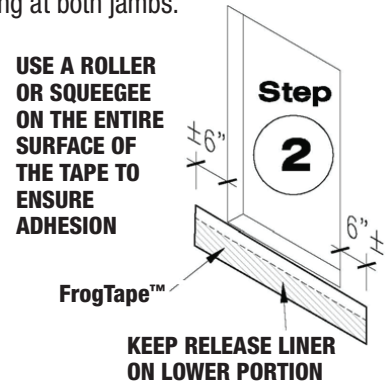

Figure 3 Apply sill flashing.
Step 2. Precut a length of FrogTape Pro Grade Flashing Tape for the windowsill to extend a minimum of 6 in beyond the prepared rough opening at both jambs. It is recommended that the 6 in, 9 in and 12 in widths of FrogTape Pro Grade Flashing Tape be used for flashing windowsills. These widths are made with a scored release liner so that a partial piece of release liner can be removed. Remove the top portion of the release liner. Keep lower portion of release liner on the FrogTape Pro Grade Flashing Tape – to be removed later. Apply the adhesive exposed portion of the FrogTape Pro Grade Flashing Tape across the prepared rough opening of the sill leaving the remaining release liner in place (see Figure 3). Use a roller to apply sufficient pressure along the entire surface of the tape to ensure adhesion and a continuous seal, eliminating any wrinkles, creases or trapped air beneath the tape.